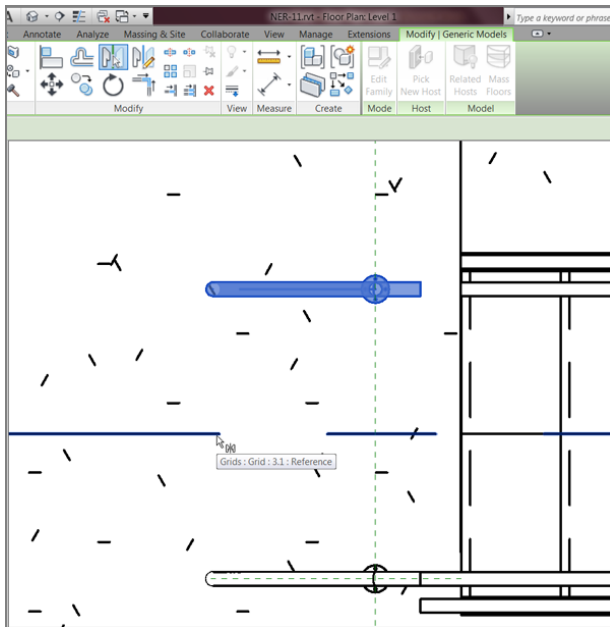

FIGURE 10.21: Mirroring the family
2. Click the Mirror - Pick Axis button, as shown in Figure 10.21.